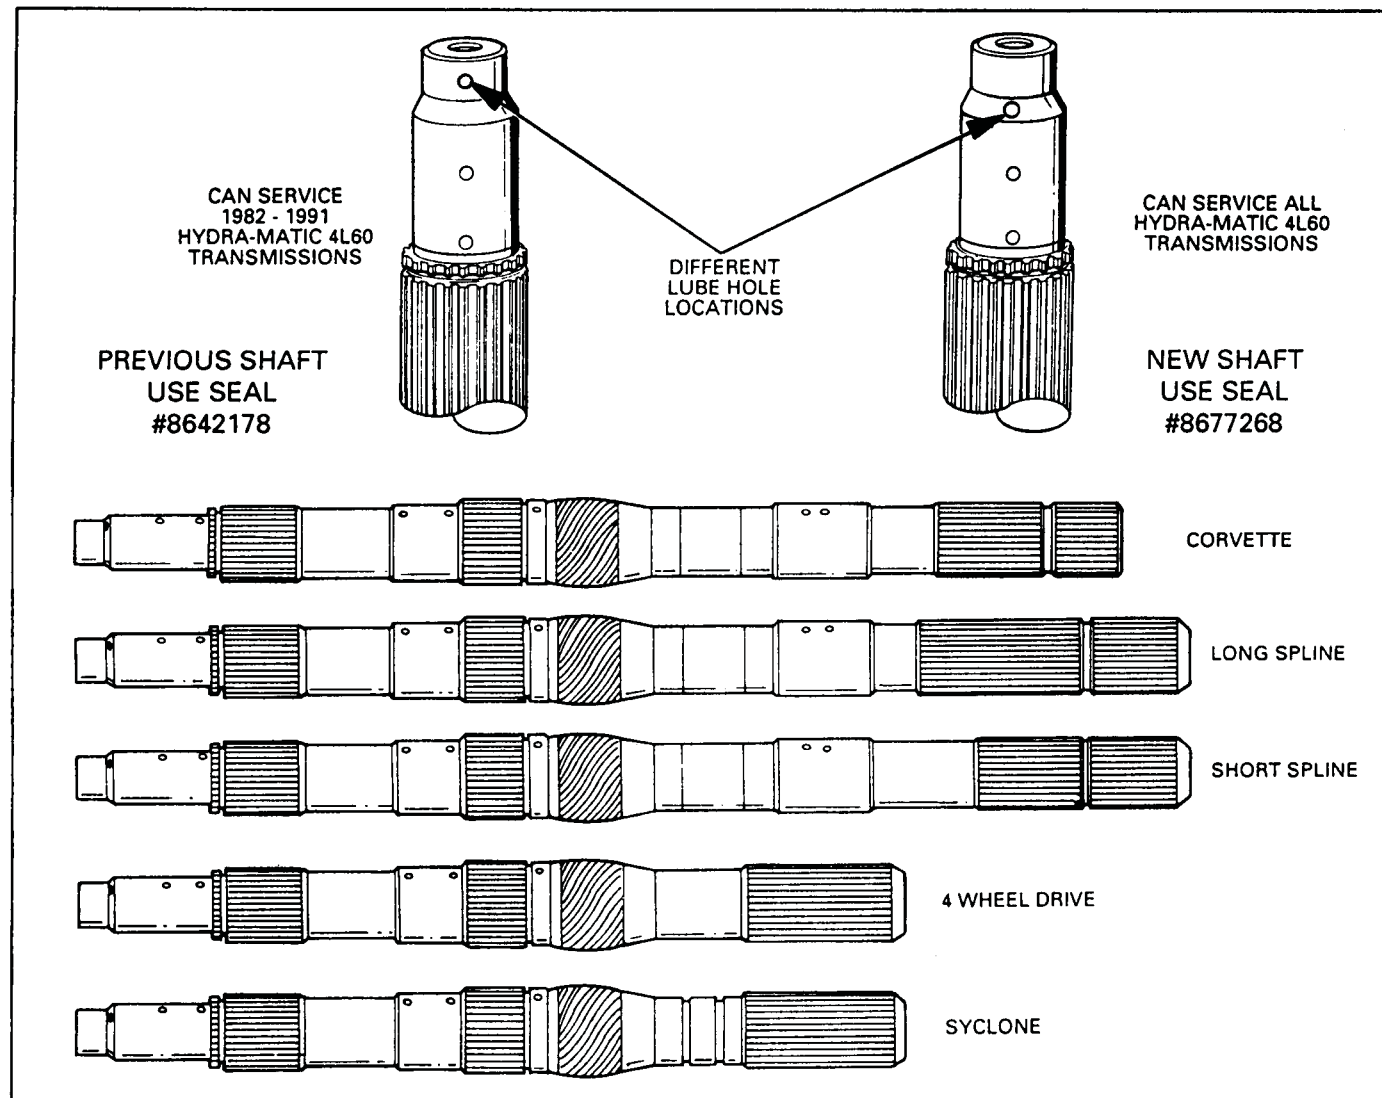

Figure 100
5. Identify output shaft using Figure 100 and install output shaft into transmission by rotating to index the shaft splines with the mating parts.